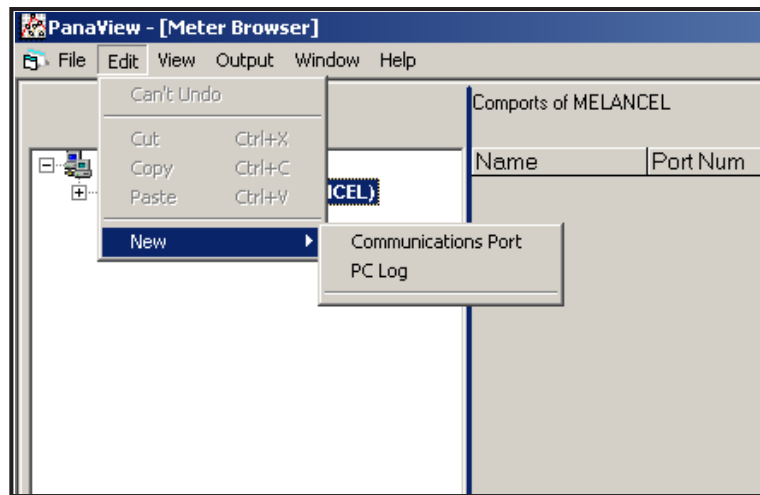

Figure 32: Edit Menu
4. Click on the *New* menu option to select it, and a submenu opens with two choices on it (see *Figure 32* below).